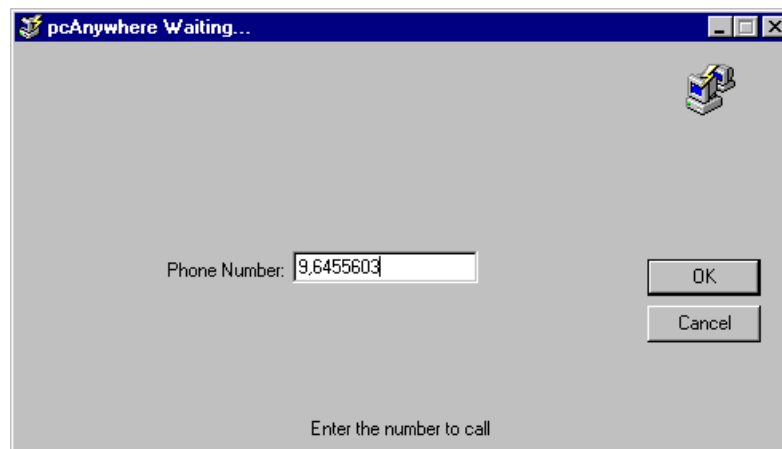

Figure 5-11. SEM Phone Number Entry
- b. From the Remote Control GUI double click on the MODEM icon. The phone number entry GUI will appear (pcAnywhere Waiting) as shown in Figure 5-11. Enter the phone number of the SEM, then click OK.